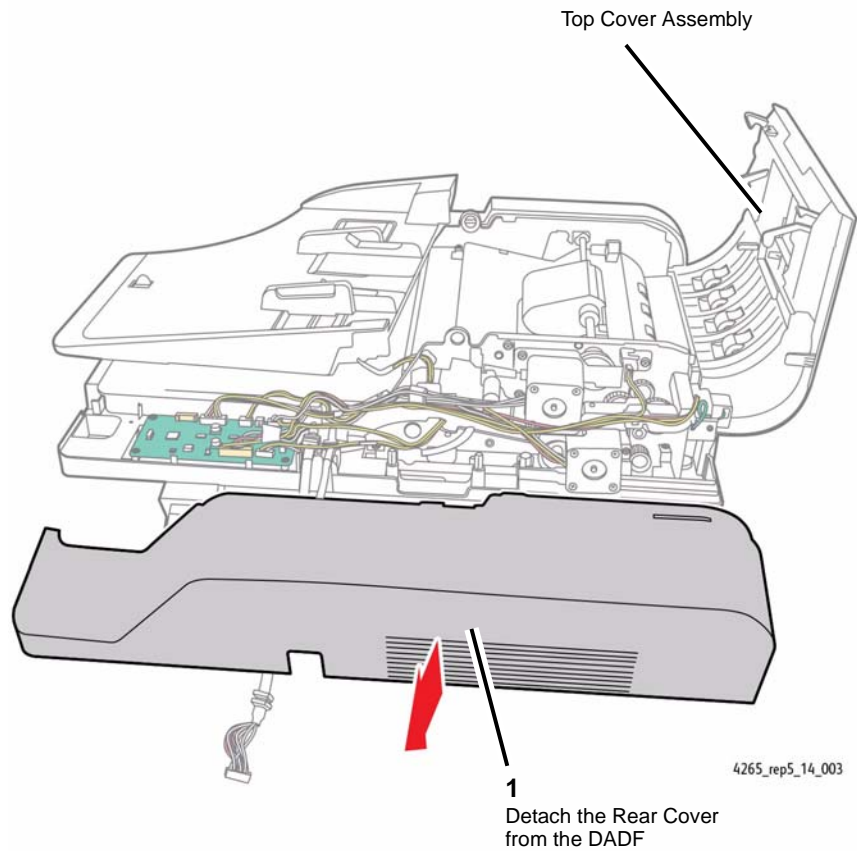

Figure 3 Removing the Rear Cover
5. Remove the Rear Cover from the DADF (Figure 3).